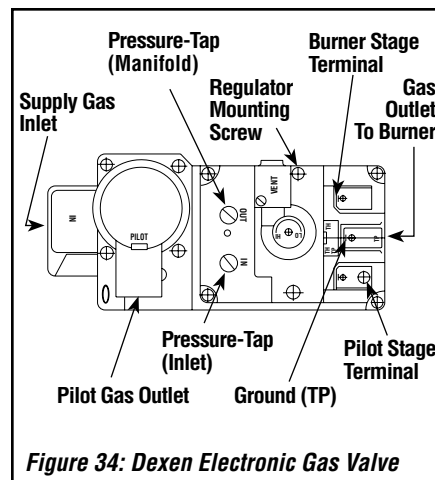

Figure 34: Dexen Electronic Gas Valve
**Step 8. Dexen Electronic Valves:** Refer to **Figure 34** and the instructions provided with the kit.